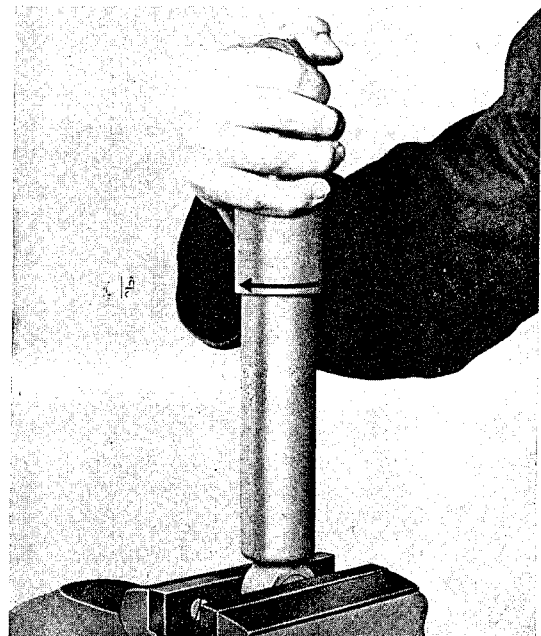

Fig. 62
4. Starting from the original position, turn $\frac{1}{2}$ or more revolutions clockwise – depending on the extent of the shock absorbing force to be checked – then stretch the shock absorber somewhat apart in order to be able to disengage the adjusting device (see fig. 62) (Max. readjustment 4 revolution halves).